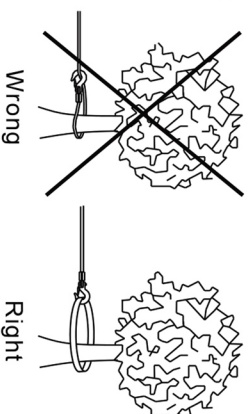

Figure 3
- g. Never hook the wire rope back on itself as this can damage the rope. Use a nylon sling when using an anchor point such as a tree. SEE FIGURE 3.